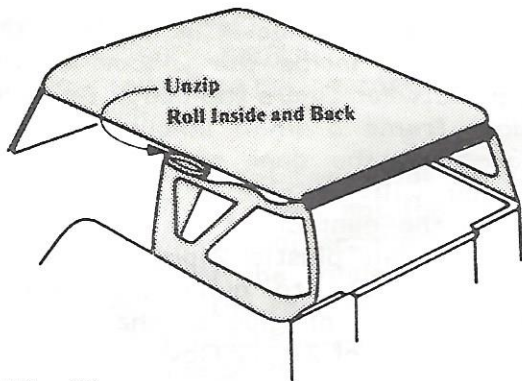

Fig. 19
2. To roll back the side panel, first remove the Vertical Rod and unzip the side panel. Roll panel to the inside and to the rear as shown in Figure 19. Secure panel with straps on the side panel.